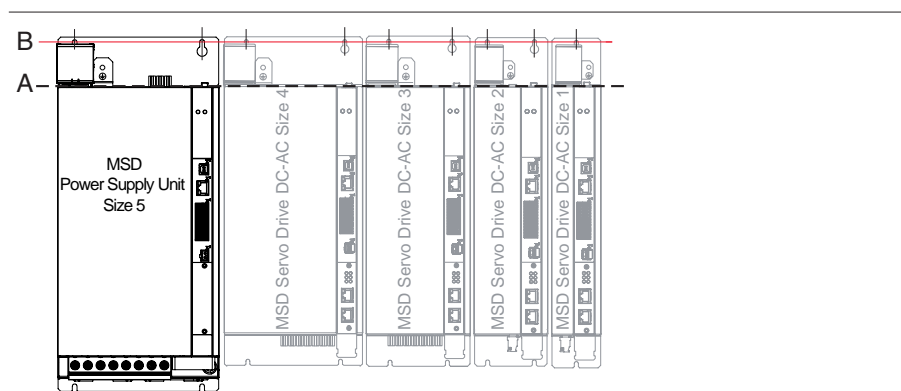

Figure 3.4 Butt mounting axis group, wall mounting with supply unit Size 5
- Align the supply unit Size 5 and all MSD Servo Drive DC-AC in a line along the top edge of the devices (see line A in Figure 3.4). This action is necessary to be able to make the DC link connections.